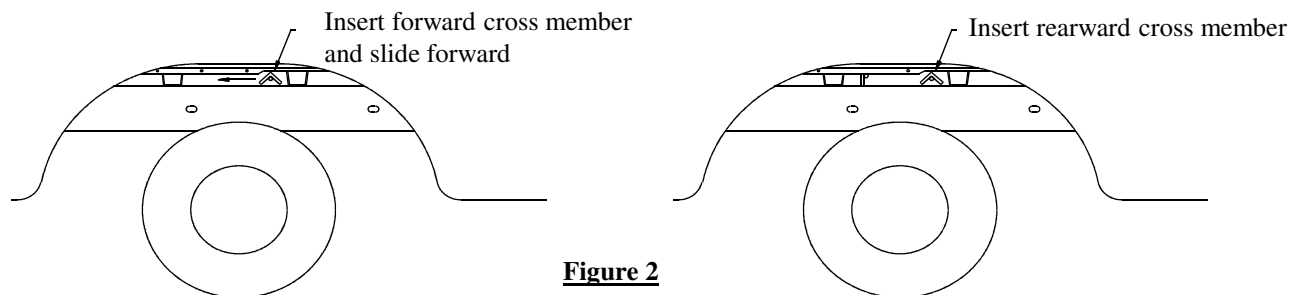

Figure 2
1. Slide the forward and rearward cross members between the frame rail and the bed of the vehicle as shown in Figure 2. The forward cross member has (2) additional holes centered between the long slots.